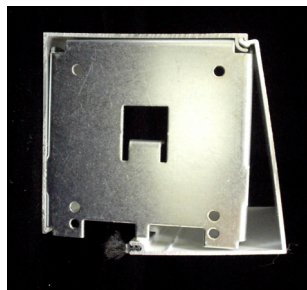

Figure 13 Fascia Going Onto Bracket
- Position the lip of the fascia over the lip of the top/back cover (Figure 13).